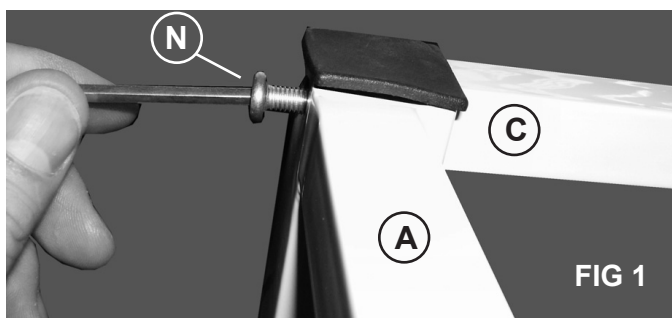

FIG 1
Begin by assembling the base by taking the left side (part A) and attaching the three cross supports (part C, D & E) using 1 each 6x50mm hex bolts (part N) into each hole found on the outside side edge of Part A and lining that hole up with the hole in the end of each cross support. Tighten hex bolt with Allen Wrench (part C1). SEE FIG 1,2 & 3
**PLEASE NOTE: The Black square caps as shown in FIG 1 indicate the top side of Parts A & B**
**PLEASE NOTE:** The Black square caps as shown in FIG 1 indicate the top side of Parts A & B